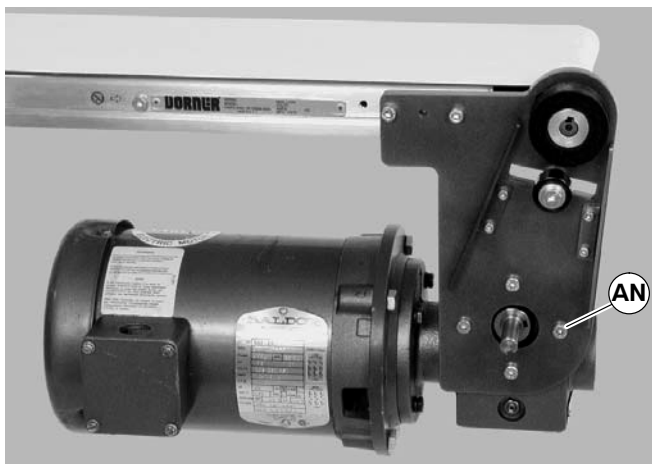

Figure 27
7. Remove four (4) gear reducer mounting screws (AN of Figure 27). Remove gearmotor.